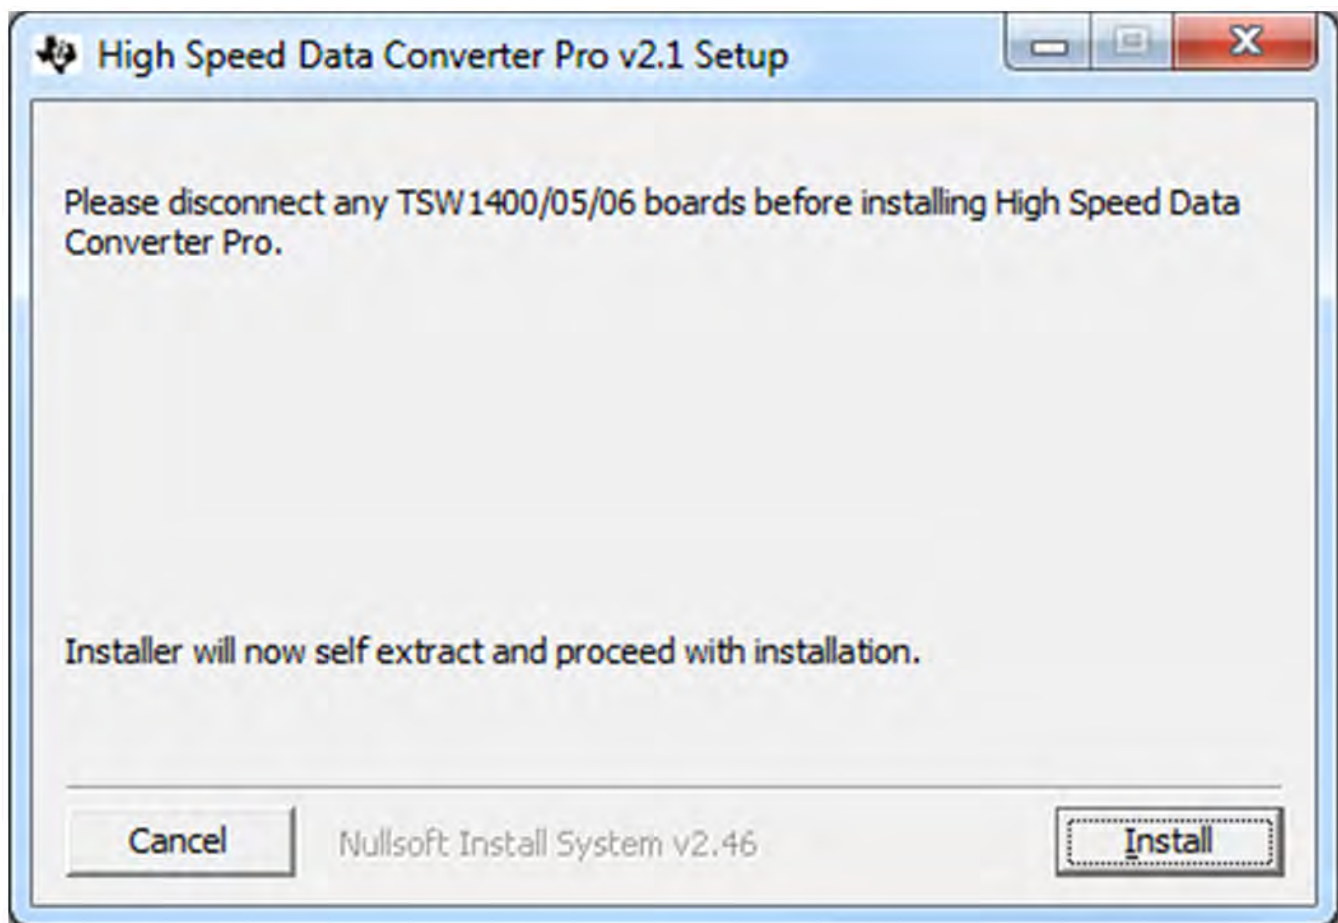

Figure 31. HSDCPro Install (Begin)
- Unzip the saved folder and run the installer executable to obtain the pop-up shown in Figure 31.